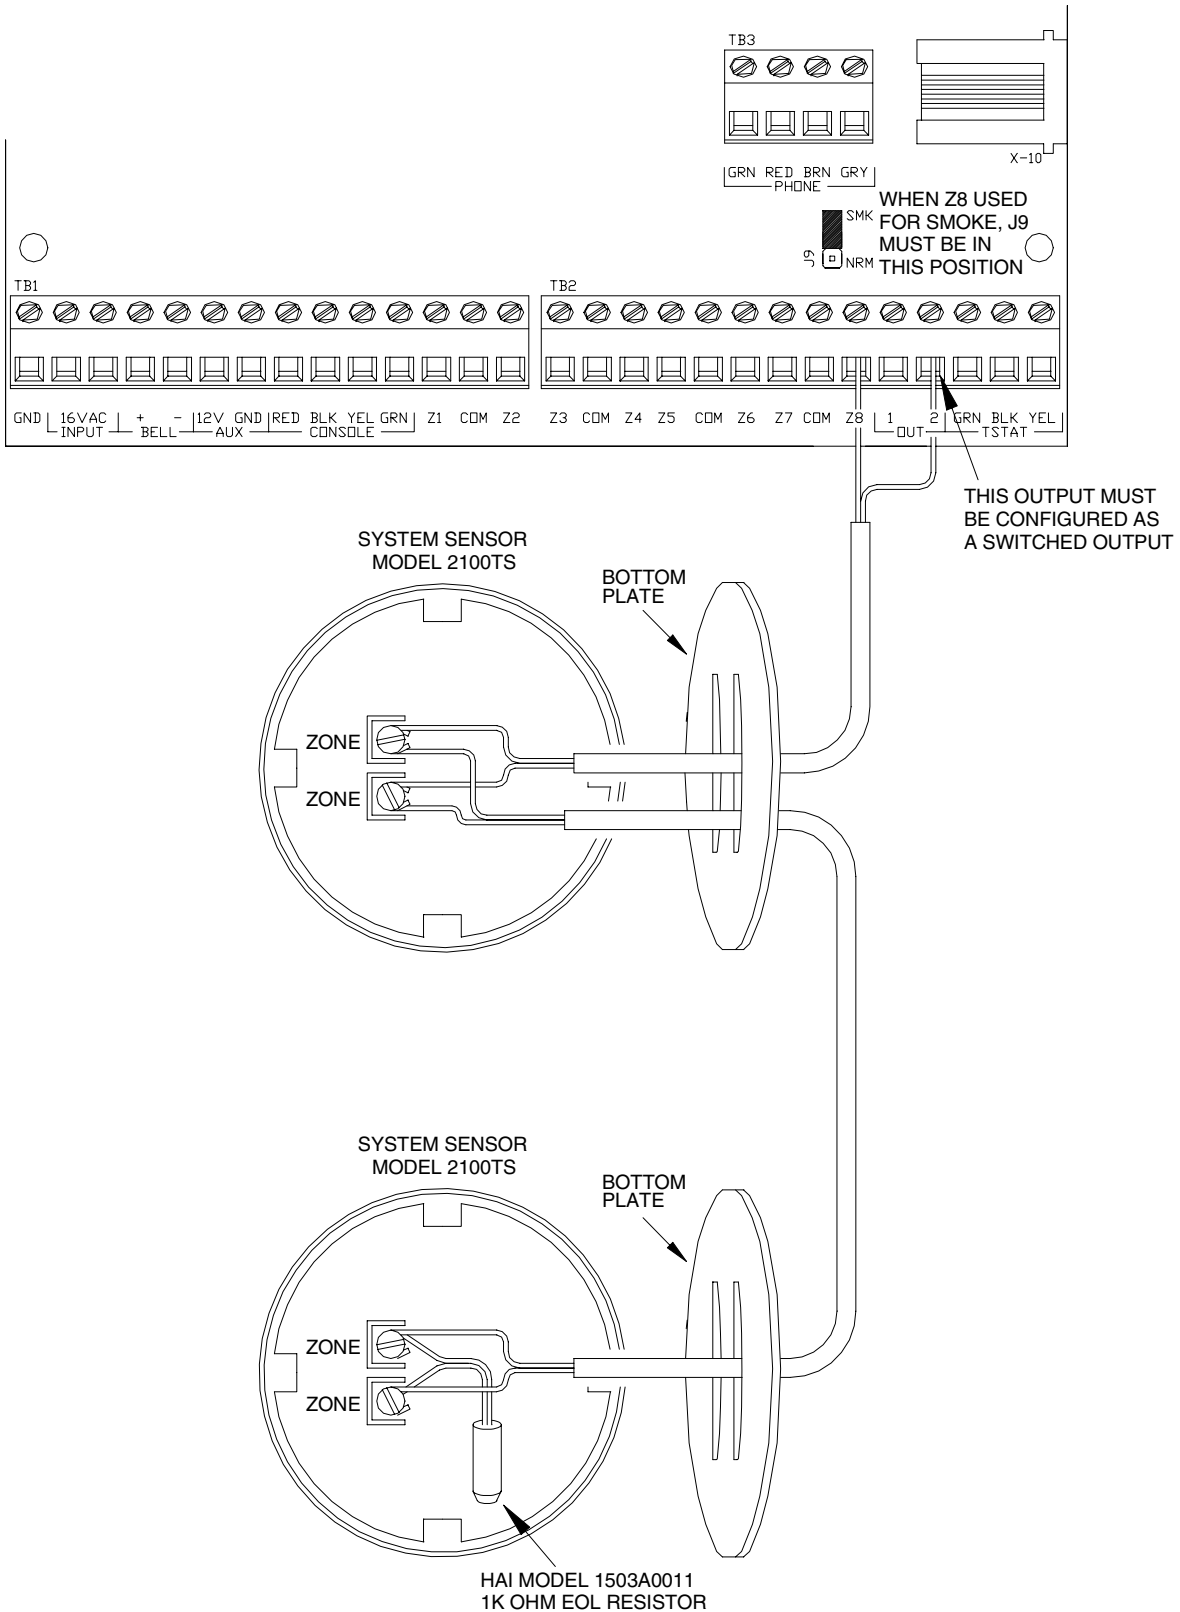

FIGURE 3 – TWO-WIRE FIRE ZONE CONNECTIONS
4. Refer to **FIGURE 3 (TWO-WIRE FIRE ZONE CONNECTIONS)** for this configuration.